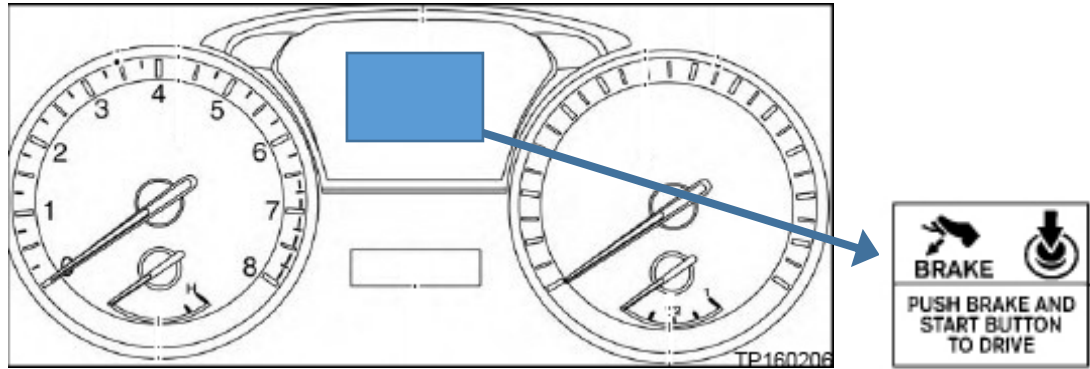

Figure 4
10. Confirm “**PUSH BRAKE AND START BUTTON TO DRIVE**” is displayed in the vehicle information display in the combination meter (see Figure 4).